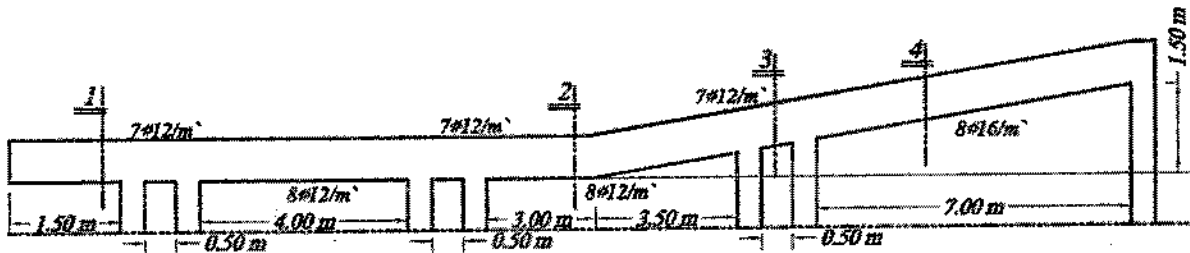

Fig. 1
c) The given longitudinal section is for continuous beam with cross section ($A_c = 250 \times 800 \text{ mm}^2$) and steel reinforcement (A_s) shown in Fig.1. It is required to draw the reinforcement details presenting longitudinal section and the determined cross section only. NOTE; assume column width is 300 mm.